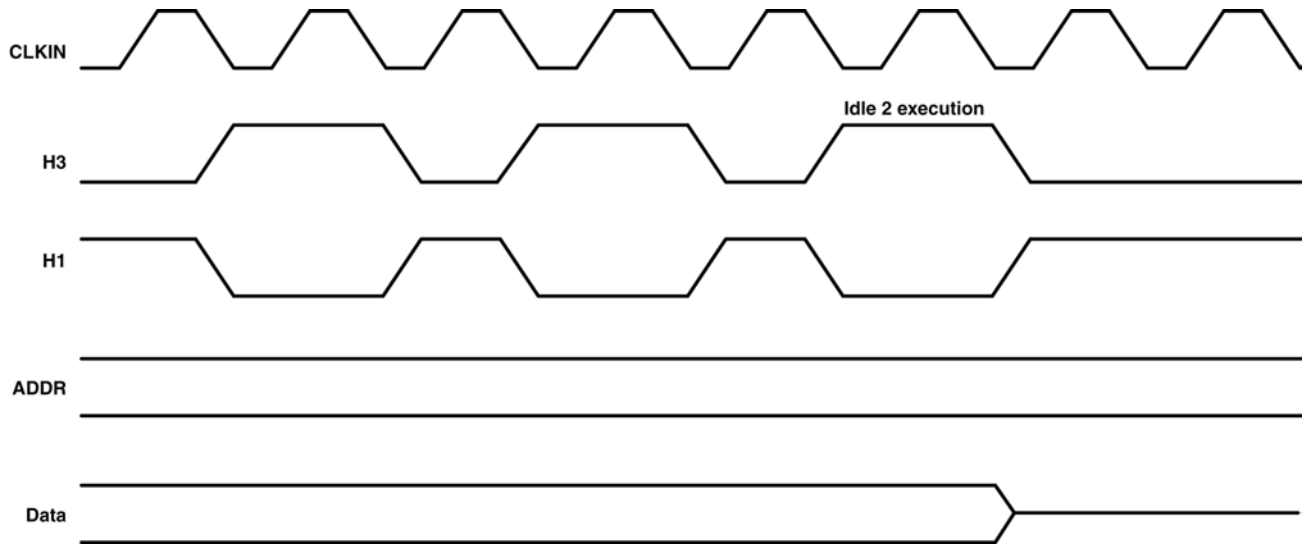

Figure 1. IDLE2 Timing
- When the device is in nonemulation mode, the internal clocking stops and H1 remains high while H3 remains low (see Figure 1). When the emulator is connected, the DSP detects the emulator and disables the IDLE2 opcode decode.